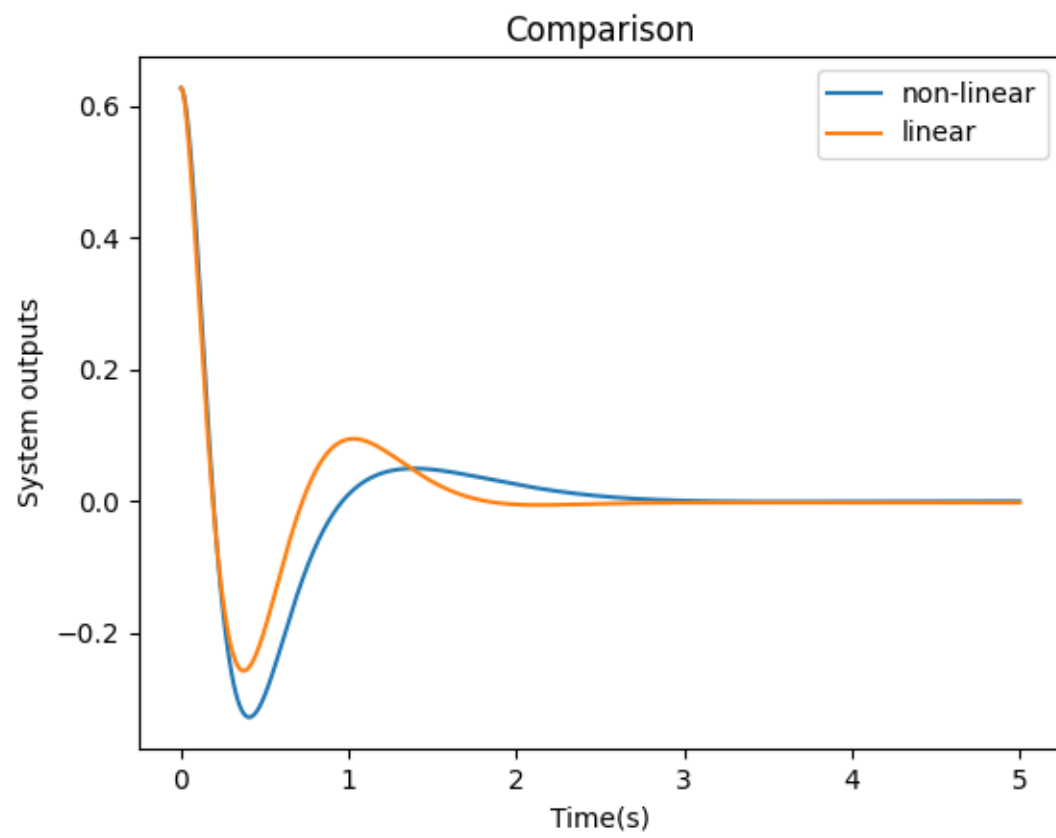

Figure 7: Comparison
4. The comparison between the linear and nonlinear system can be seen in the system below in Figure 7